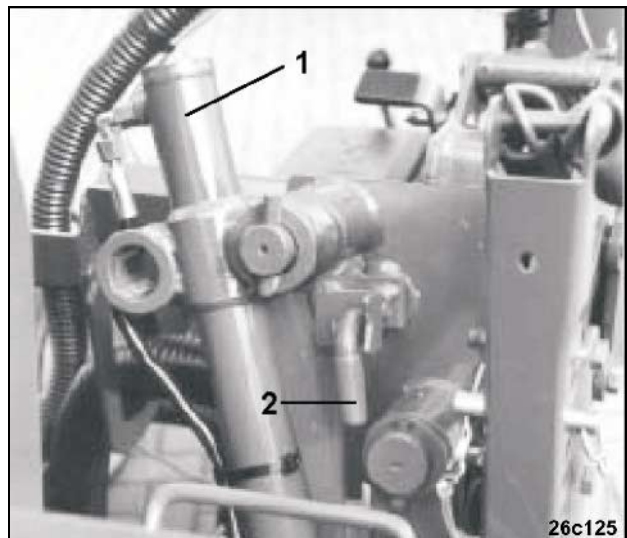

Fig. 130
- Swivel upwards the outer sowing units into transport position with the aid of the hydraulic ram (Fig. 130/1) and lock them in this position by using pins (Fig. 130/2).